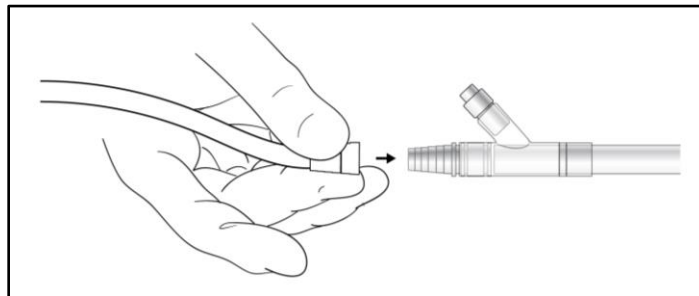

Figure 5
13. After the vacuum pressure has been set and confirmed, connect Jada to the sterile vacuum tubing (**See Figure 5**). Blood flow into the vacuum tubing and/or improvement in uterine tone should be noted after initiation of vacuum.